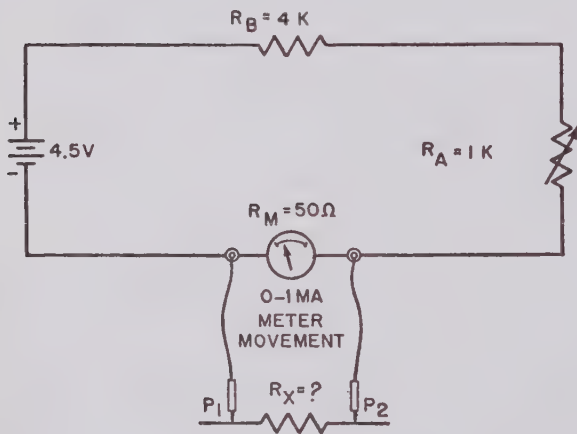
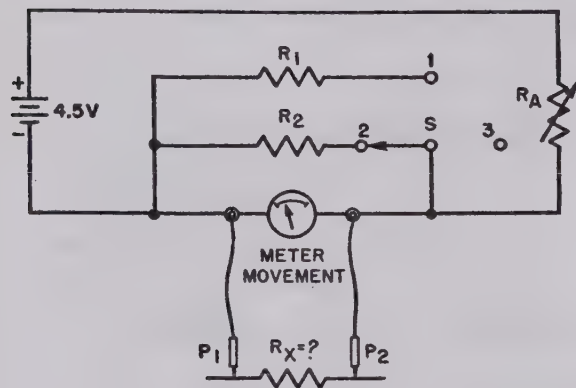

Figure 31. Basic shunt-type ohmmeter circuit.
Figure 32. Shunt-ohmmeter circuit providing three low-resistance ranges.
a. Low values of resistance can be measured accurately by means of a shunt ohmmeter (fig. 31). The unknown resistor, R_x , is shunted across the meter and some of the current in the
b. With test prods P_1 and P_2 (fig. 31) open, R_A is adjusted to provide full-scale deflection on the meter, and a current of 1 ma flows through the circuit.
f. The usable scale range of the shunt-ohmmeter circuit shown in figure 31 is approximately between 5 and 400 ohms. Resistances falling above or below these values are difficult to read with any degree of accuracy because of the crowding that occurs at the ends of the scale. Should greater accuracy be required for low values of R_x , the meter scale can be extended to provide several low-resistance ranges by incorporating meter shunts having the required resistance values. The desired range then is selected by connecting the proper shunt across the meter by means of individual terminal jacks or a multipole switch. The required shunts usually are connected across the meter by turning a rotary switch to the range indicated on the ohmmeter panel. Values as low as a fraction of an ohm can be measured with considerable accuracy, since a resistance range having very low limits can be spread over the entire meter scale.
g. A shunt ohmmeter providing three ranges for lower resistance measurement is shown in figure 32. With the selector switch in neutral position 3, the unknown resistor, R_x , is connected directly across the meter. This provides a meter range extending to about 400 ohms, as in the circuit of figure 31. When resistor R_1 is switched across the meter, part of the current is shunted around the meter and flows through R_1 .